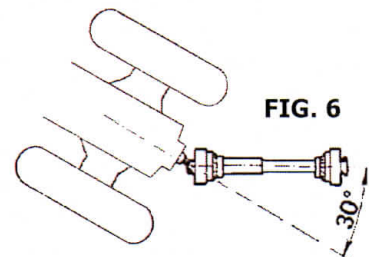

FIG. 6
- Never exceed an inclination of 30° in any direction for any reason (see FIG. 6).